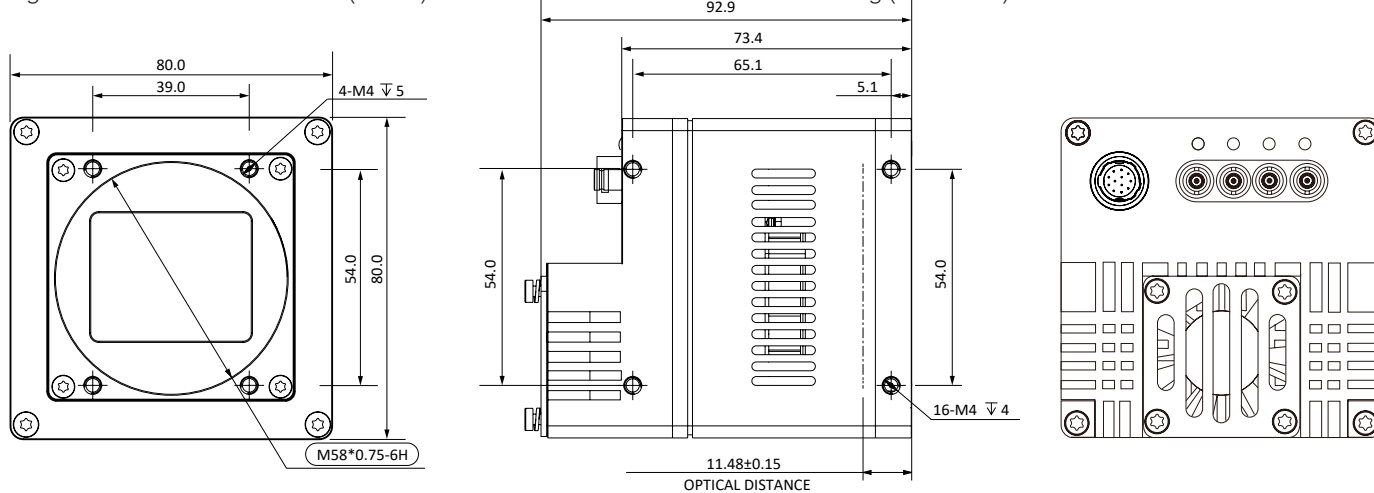

Fig. 1-10: Mechanical Dimensions (in mm) for Cameras with 80 * 80 * 73.4 housing (M58 interface).
- Fig. 1-10: Mechanical Dimensions (in mm) for Cameras with $80 \times 80 \times 73.4$ housing (M58 interface).